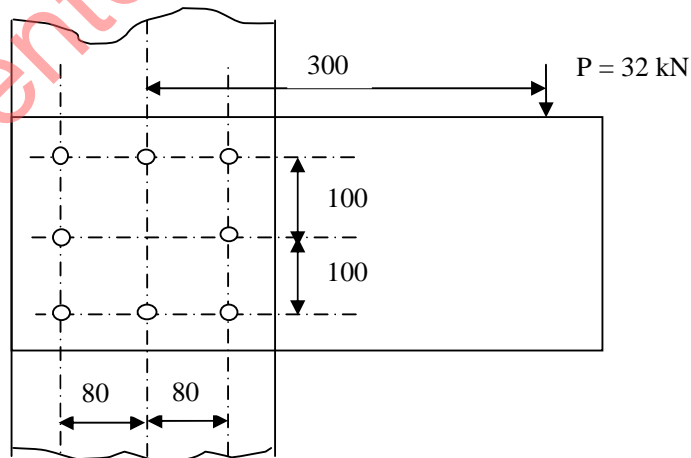

Fig. 1; Q. 2 (b)
- (b) A bracket is subjected to a load of 32 kN which is joined to a structure by means of 8 numbers of rivets as shown in Fig. 1. Find the size of the rivets if the permissible shear stress is 80 MPa. **07**